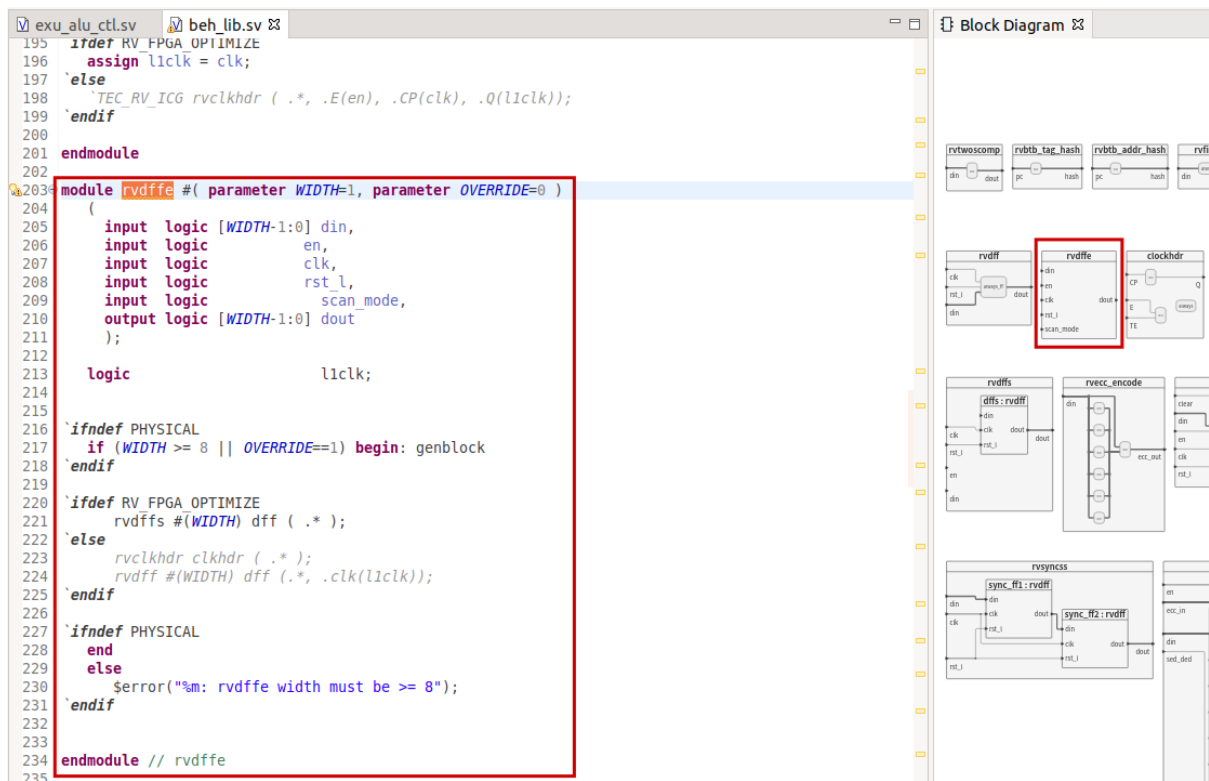

Figure 11. Module `rvdffe`
- Finally, we open a module declaration on the Block Diagram by right-clicking on the module instantiation in the Verilog code and selecting Open Declaration. Figure 11 shows module `rvdffe`, implemented in file `beh_lib.sv`.